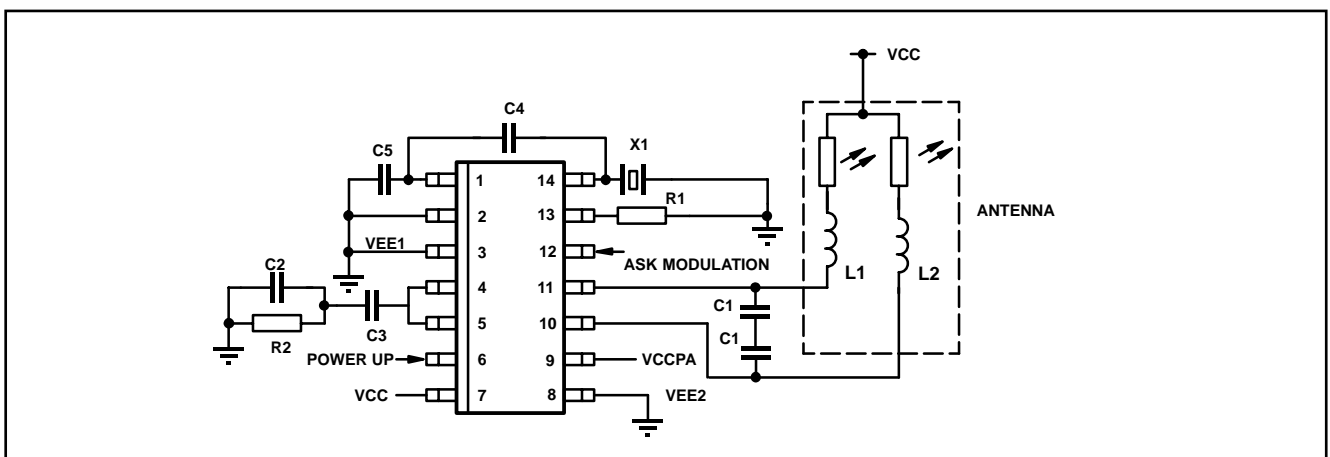

Figure 6 - Application diagram
3. Regulatory issues demand that transmission does not take place until the PLL has acquired lock and the VCO is operating at its final output frequency. This requirement demands that pin TXEN is set high at least Txe ms prior to the transmission of any data. This value is dependent on the PLL loop bandwidth and hence on the value of the external loop filter component values. The specification value above is for the loop filter components shown in the applications diagram (Fig. 6)
A single transistor Collpits crystal oscillator provides a reference clock for the PLL. The oscillator is configured for parallel resonant operation in the fundamental mode (typical operating frequency of 3–7MHz). The crystal is connected between pins XTAL2 and  $V_{EE1}$  with external components as shown in Fig.6.
The input signal at pin DATA produces amplitude shift key (ASK) modulation of the VCO output. This is achieved by on-off keying of the bias current in the output power amplifier stage. The output of the PA is a balanced output (pin OUT and OUTB) and is current source driven (open collector outputs). The outputs of which should be D.C. referenced to a positive supply voltage (anticipated to be  $V_{CC}$  in most applications). The current source outputs can drive a PCB antenna directly (Fig. 6) or if a higher output power is required on limited supply headroom via a simple impedance transforming network.
The IC is capable of directly interfacing to a PCB loop antenna as shown in the applications diagram (Fig. 6).